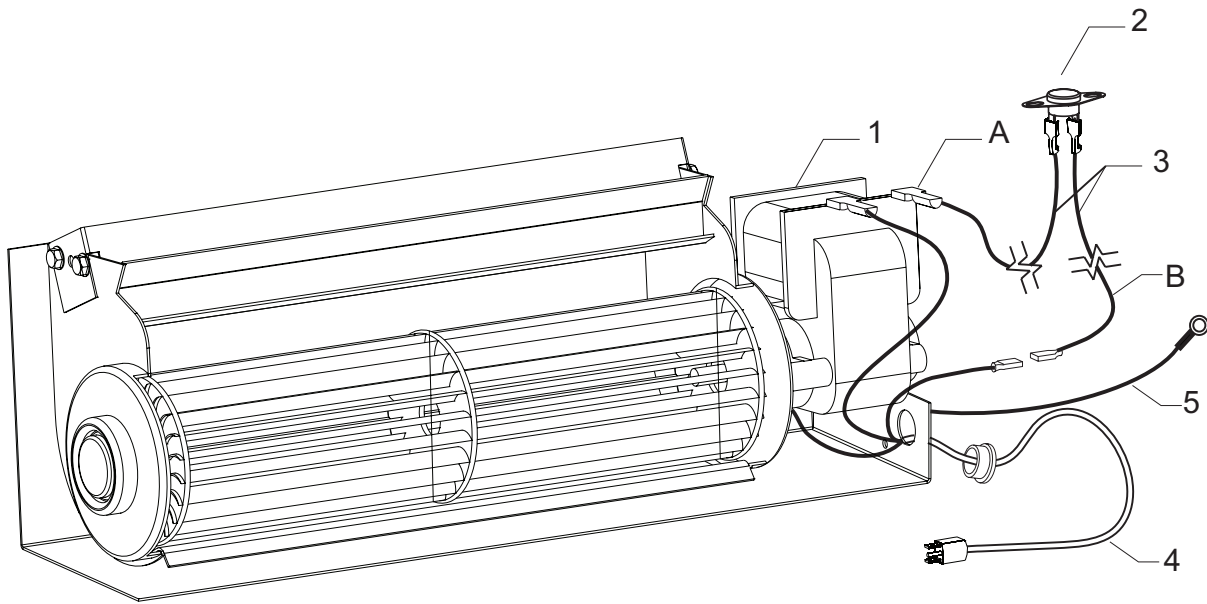

Figure 22
5. One fan control wire will have a 1/4 inch female terminal that must be attached to the open terminal on the blower motor. **See Figure 22, Connection A.**
6. The other fan control wire has a 1/4 inch male terminal. Attach this terminal to the open terminal on the blower power cord. **See Figure 22, Connection B**